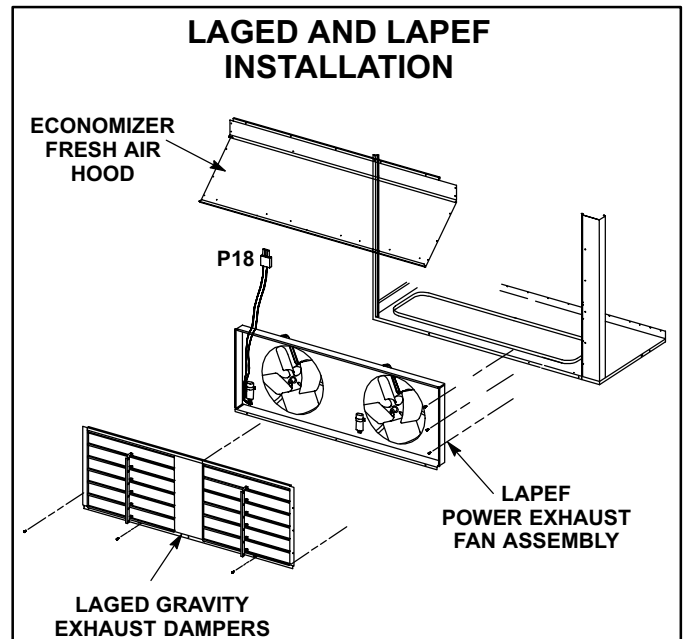

FIGURE 35
LAGED(H)18/24 dampers are used with LGA / LCA / LHA series units. LAGED dampers are used in downflow and LAGEDH are used in horizontal air discharge applications. LAGED(H) gravity exhaust dampers are installed in the return air plenum (see figure 35). The dampers must be used any time an economizer or power exhaust fans are applied to LGA / LCA / LHA series units.
LAPEF18/24 power exhaust fans are used with LGA / LCA / LHA series units. LAPEF (requires optional down-flow gravity exhaust dampers and LAREMD economizers) are used in downflow applications only. Power exhaust fans provide exhaust air pressure relief and also run when return air dampers are closed and supply air blowers are operating. Figure 35 shows location of the LAPEF. See installation instructions for more detail.